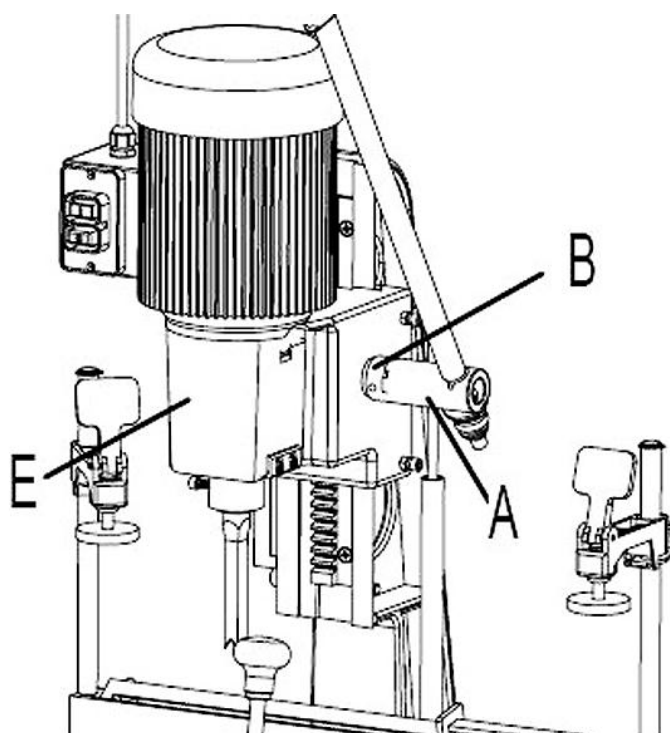

Fig 3
2. Raise mortising machine head (E) Fig. 3, to the up position by turning handle (A) clockwise.
**Note:** Handle (A) is spring-loaded and can be repositioned by pulling out handle and repositioning it on pinion shaft (B).